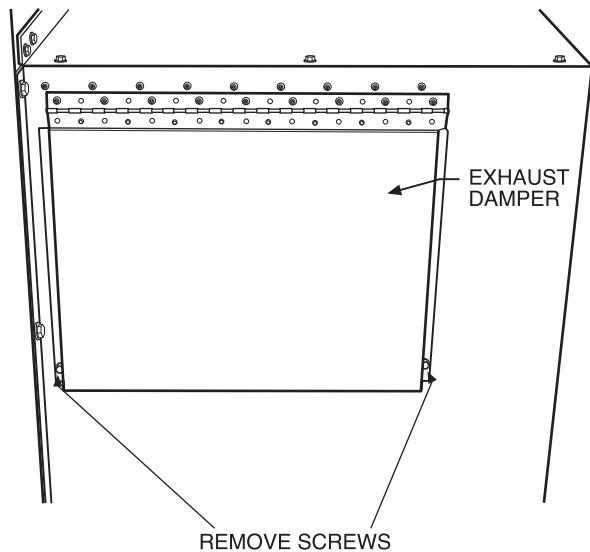

Fig. 30 — Optional Exhaust Damper
Step 10 — Install Open Exhaust Damper (Units with Optional Exhaust or Energy Conservation Wheel Only) — The optional exhaust damper is secured to the exhaust assembly for shipping. Remove the two screws holding the damper to the panel. Damper should be free to swing open during operation. See Fig. 30.